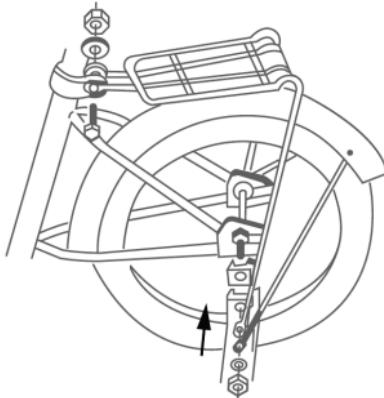

Figure 11
1. Install auxiliary wheels. (Figure 11)